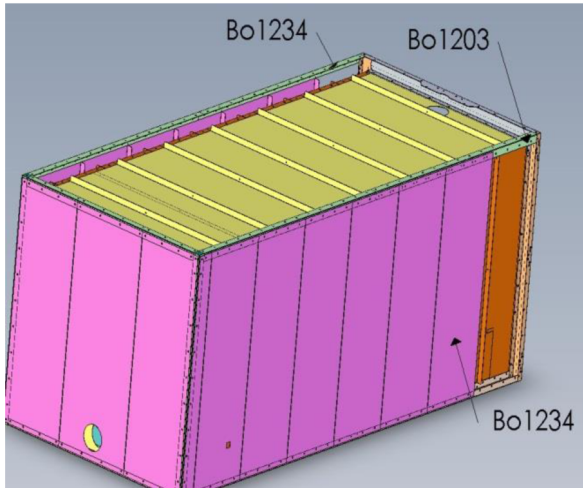

Figure 19
18) Once you get to the third panel, install BO-1234 as show in **figure 19**. Now continue installing panels BO-1207.